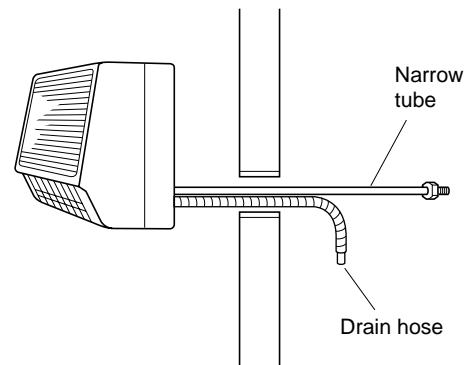
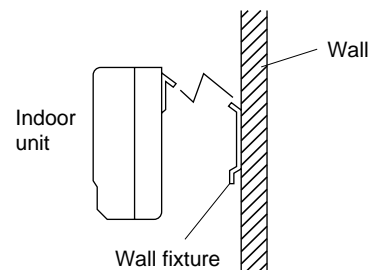

Fig. 3-50
Fig. 3-51
- (1) Shape the narrow refrigerant tube and the drain hose in the desired direction so that they can easily go into the wall hole. (Fig. 3-50)
- (2) Push the wiring, narrow tube, and drain hose through the hole in the wall.
- (3) Bend the tubing (if necessary) to run along the wall in the direction of the outdoor unit, then tape as far as the fittings. The drain hose should come straight down the wall to a point where runoff won't stain the wall.
- (4) Hang the indoor unit on the wall fixture. (Fig. 3-51)